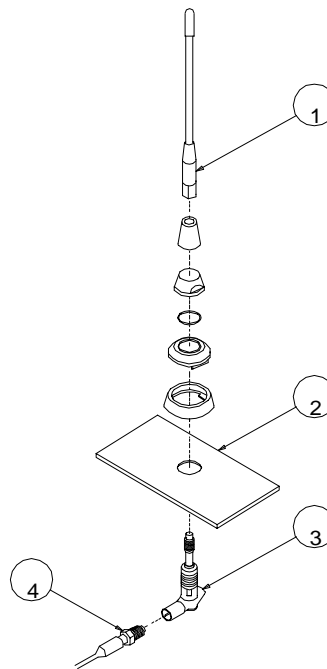

Figure 2.8: Standard External Antenna
3. Assemble the antenna according to Figure 2.8: Standard External Antenna.